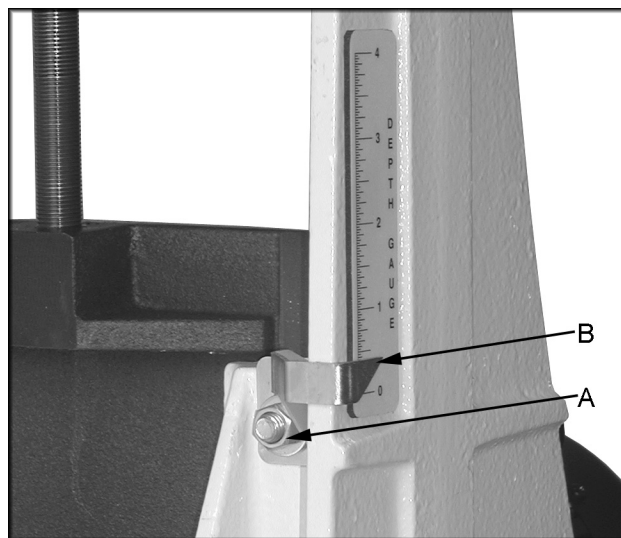

Fig. 14
2. Loosen the hex nut (Fig. 14, Item A).
3. Adjust the pointer (Fig. 14, Item B) to read zero and tighten the bolt.
The optimum stock feeding angle, when sanding, is at a 60-degree angle (Fig. 14). However, even a slight stock feeding angle will provide more effective stock removal, less loading of abrasives, longer abrasive life, potentially faster feed rates and reduced motor loads.